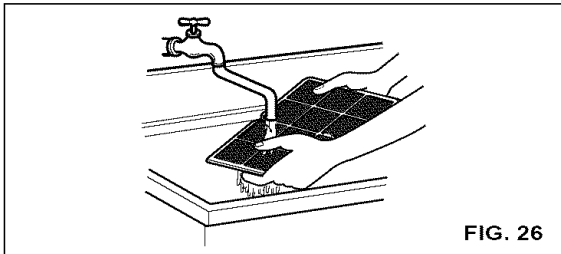

FIG. 26
- Wash the Air Filter under the faucet with warm water. Be sure to shake off all the water before replacing the filter. (FIG. 26)